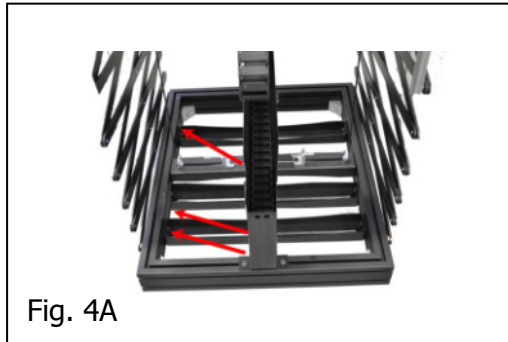

Fig. 4A
- Roll down the SI-H XL 300 by pushing ▼ button on the remote control (Fig. 7A), in order to lower the lift till the lower end-stop (SERVICE mode), preset in the factory at 2,5 mt. ca. In case you wish to modify the lower end-stop (SERVICE mode), please refer to instructions at page 4 and 5. In order to fix the projector under the lift, position the splines of the three profiles of the lower lift frame, to match the anchoring points on the projector (Fig. 4A). Unloose the four screws as shown on Fig. 4B and position the three profiles where needed (Fig. 4C). Once you have aligned the splines of the profiles with the anchoring points on the projector, tighten the screws and the bolts of the profiles following a cross scheme.